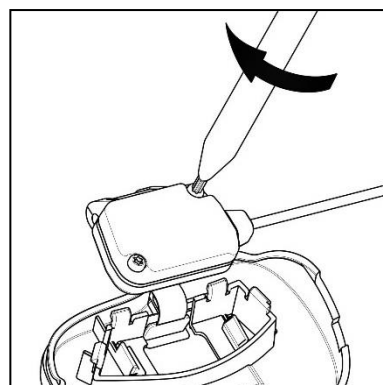

Fig. 9
10. Reposition the plastic cover and gently re-tighten the two screws (Fig. 9).